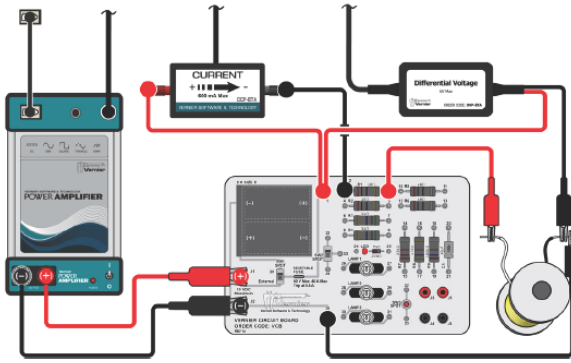

Figure 4
- a. Set up the circuit with a 10 Ohm resistor in series with a current probe and a 5.0 mH inductor. As shown in Figures 4 and 5.